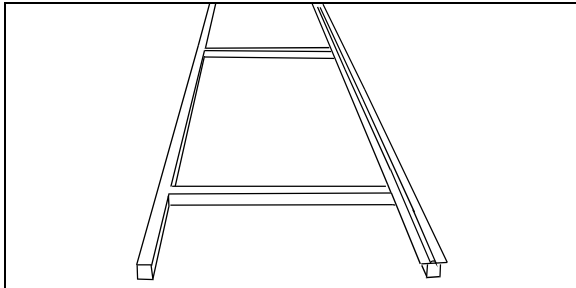

FIGURE 43: SUPPORT RAIL INSTALLATION 06501
2. Set the support rail (Prévoist #29261) down (Fig. 43). Using shims, adjust its level to stabilize it.
1. Set the support rail (Prévoist #29261) down (Fig. 43). Using shims, adjust its level to stabilize it. Use previous reference marks to ensure proper positioning.